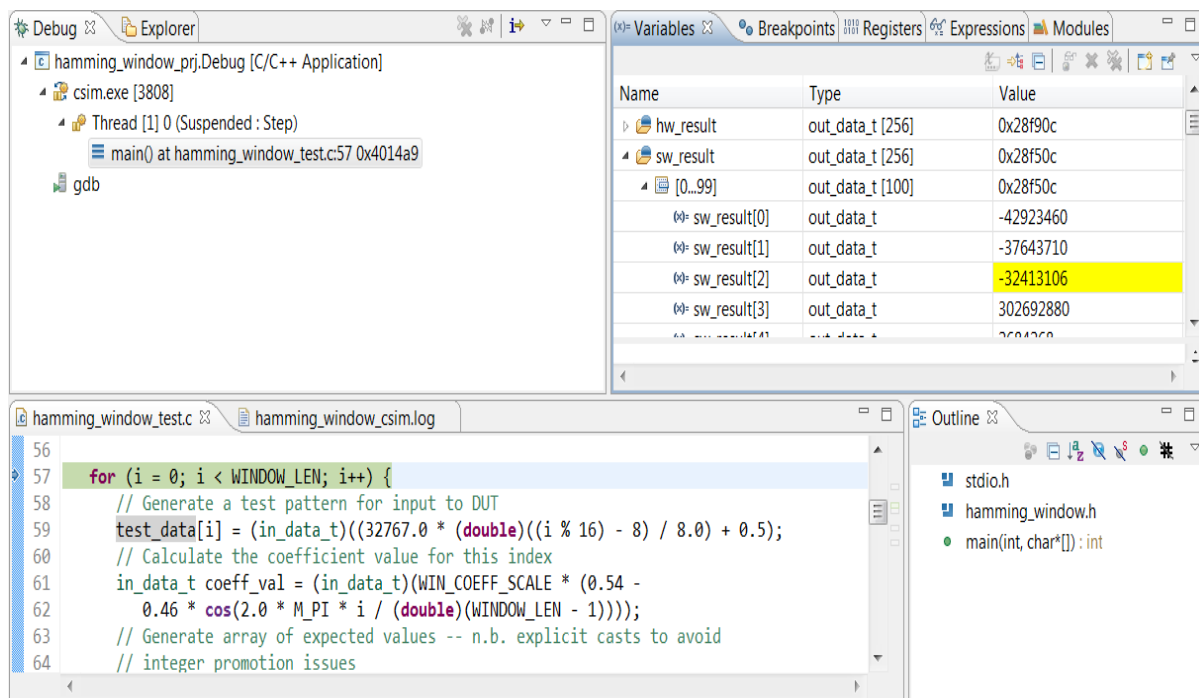

Figure 3-9: Analysis of C Variables
5. Expand the `sw_result` array to the view shown in Figure 3-9.